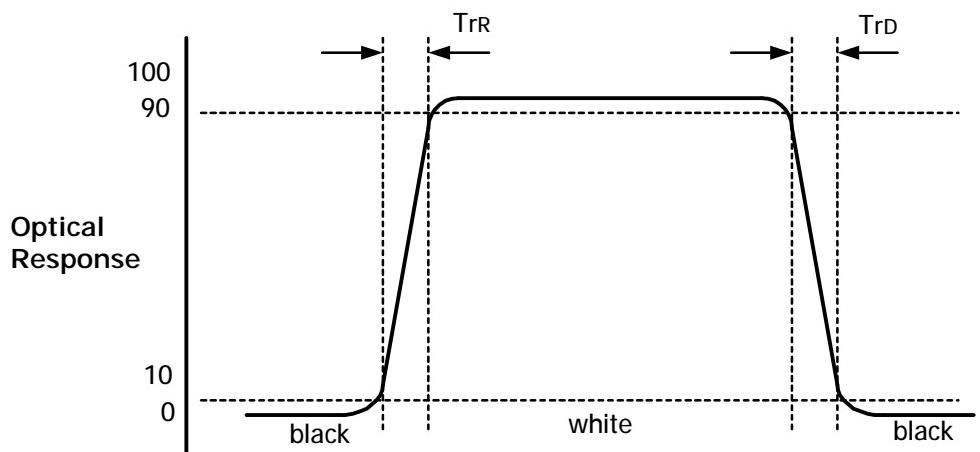

FIG. 3. Response Time
4. Response time is the time required for the display to transition from black to white (Rise Time, T_{R}) and from white to black (Decay Time, T_{D}). For additional information see FIG 3